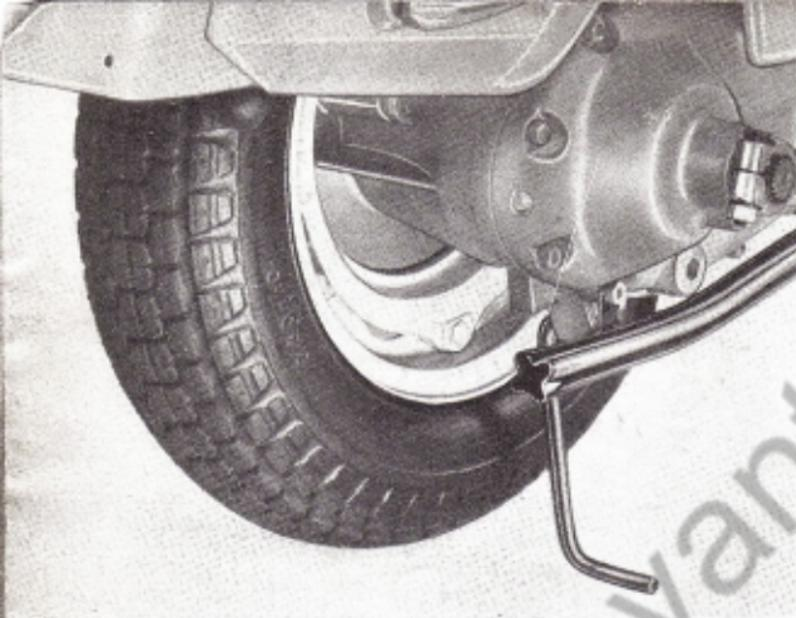

Fig. 9
- fit the wheel lift stand, supplied in kit, to the lug on crankcase (see fig. 9);